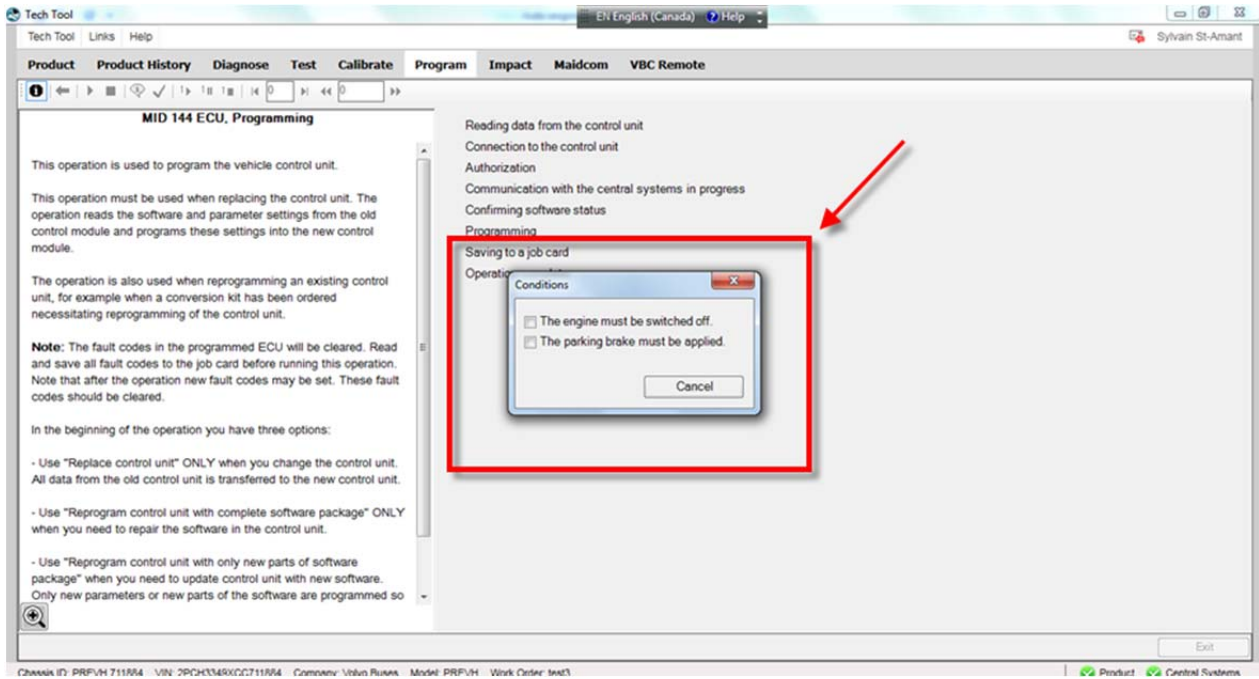

FIGURE 23
5. Validate the conditions shown on the pop up window (FIGURE 23).